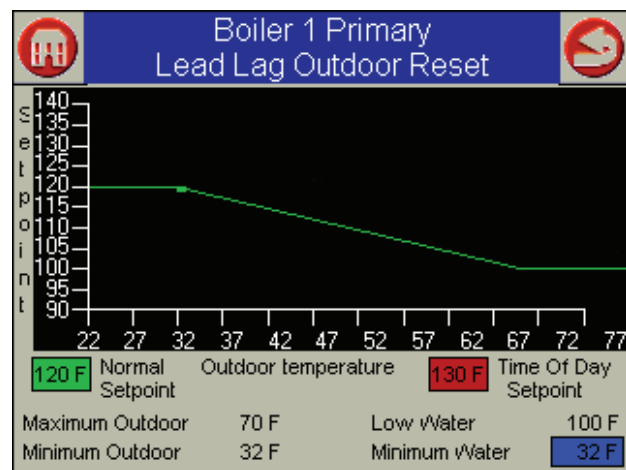

Fig. 90 – Outdoor Reset Display
11. The Show Line button at the bottom of the screen displays a curve which shows how the system will behave at different outdoor temperatures. See Fig. 90. (This screen is also explained in the section on “About Outdoor Reset.”)